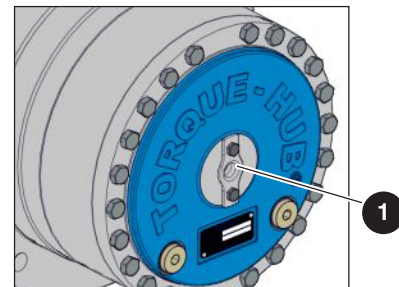

Figure 19 Disengage cap
6. Locate disengage cap (refer to Figure 19).